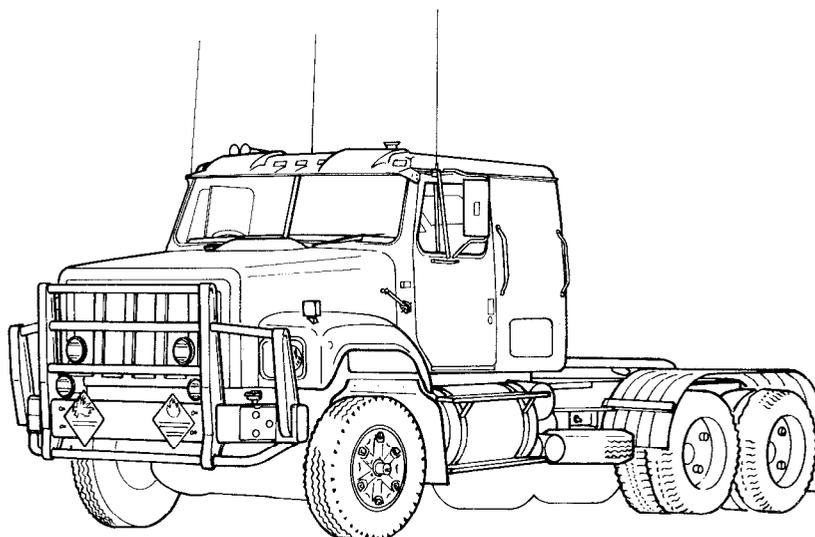

Figure 2 — Truck, Tractor, Heavy, MC4
1. This EMEI contains procedures for removing, dismantling, repairing, assembling and installing various components of the truck, tractor, heavy, MC4 (see Fig. 2). Where applicable, instructions for the adjustment, lubrication and minor servicing of these items are included. This EMEI should be read in conjunction with EMEI VEH G 883 and EMEI VEH G 884.